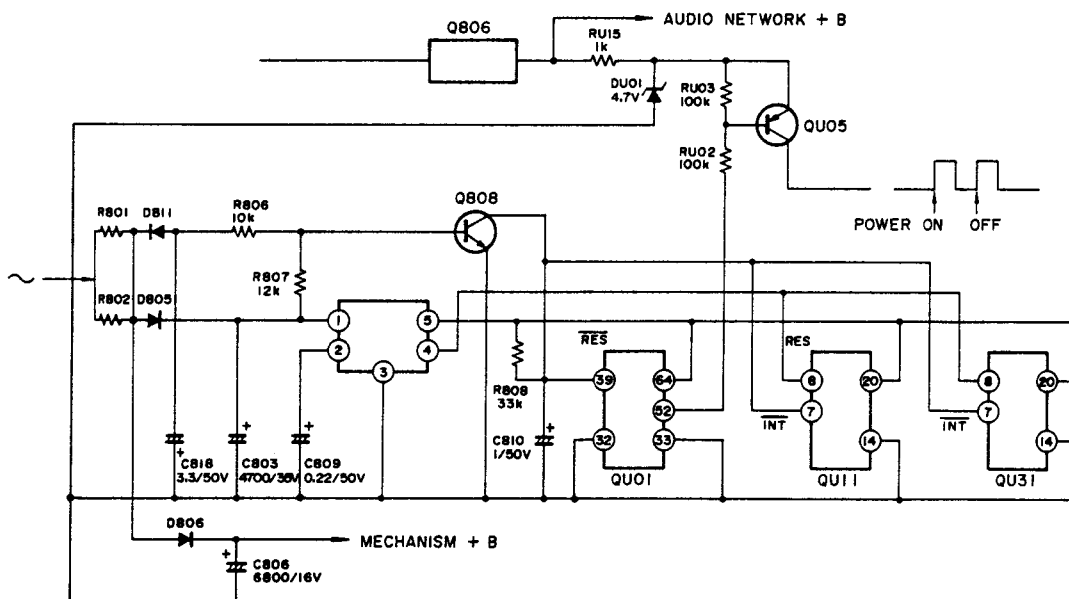
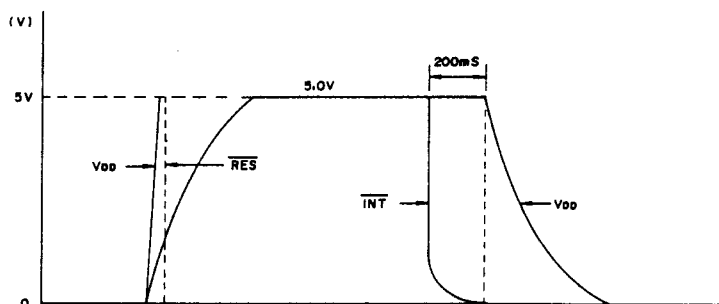

Figure 4
Figure 5
Figure 5 shows the leading and trailing characteristics of each VDD, $\overline{\text{INT}}$ and $\overline{\text{RES}}$ pin of the feature control microprocessor (QU01), mechanism control microprocessor (QU11, QU31), and figure 4 shows its diagram. Each timing is important for the normal function the microprocessors.
- ★ When operation (1) does not function (when head chassis is not in the stop position):
a) Check the waveform of QU11 pin ⑥.
b) Check the rising characteristics of VDD, $\overline{\text{INT}}$ and $\overline{\text{RES}}$. When they go high with the rising characteristics shown in Fig. 5, they are normal.
- ★ When operation (2) does not function:
a) When the tape running direction indicator is not lit, check the display PC board and surrounding wiring, etc. When the indicator does not blink after four seconds with the tape loaded, check that QU11, QU31 pin ⑩ is low with the tape loaded. (When the power is turned on, the initial condition of the mechanism is transmitted to the feature micro-processor.)